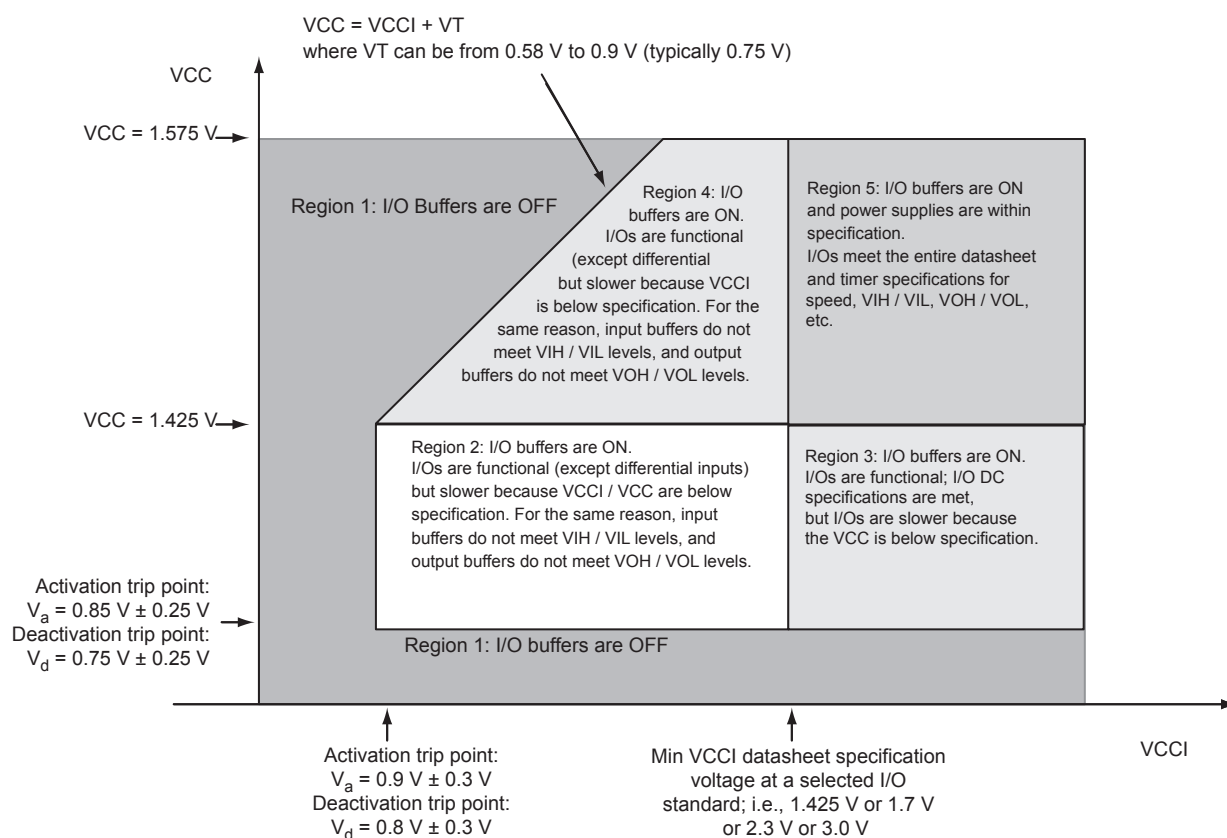
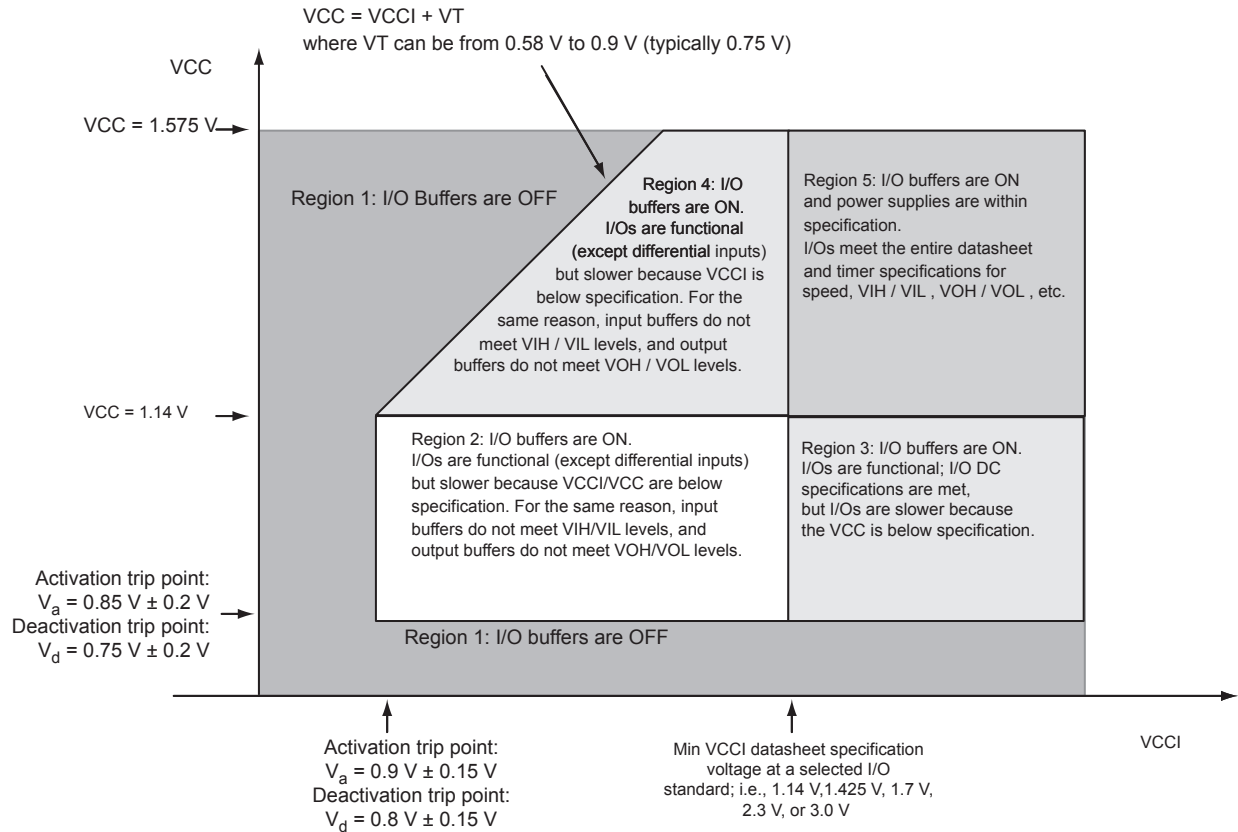

Figure 2-1 • V5 Devices – I/O State as a Function of VCCI and VCC Voltage Levels
Figure 2-2 • V2 Devices – I/O State as a Function of V_{CCI} and V_{CC} Voltage Levels
Sophisticated power-up management circuitry is designed into every ProASIC3 device. These circuits ensure easy transition from the powered-off state to the powered-up state of the device. The many different supplies can power up in any sequence with minimized current spikes or surges. In addition, the I/O will be in a known state through the power-up sequence. The basic principle is shown in Figure 2-1 on page 2-4 and Figure 2-2 on page 2-5.
1. VCC and VCCI are above the minimum specified trip points (Figure 2-1 on page 2-4 and Figure 2-2 on page 2-5).
Microsemi recommends using monotonic power supplies or voltage regulators to ensure proper powerup behavior. Power ramp-up should be monotonic at least until VCC and VCCPLX exceed brownout activation levels. The VCC activation level is specified as 1.1 V worst-case (see Figure 2-1 and Figure 2-2 on page 2-5 for more details).